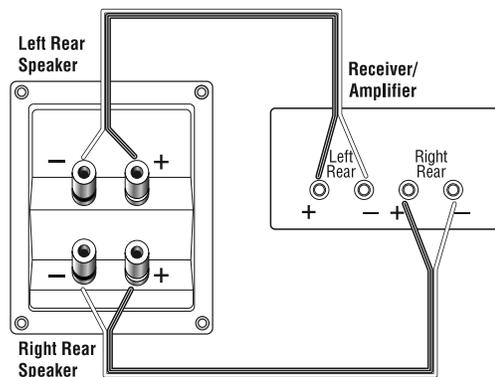

Figure 10. Wiring diagram shows connections for two channels, using Application 3.
4. Connect the speaker wire for the RIGHT REAR speaker to the top set of terminals (Figure 10).
5. Connect the speaker wire for the LEFT REAR speaker to the bottom set of terminals (Figure 10).